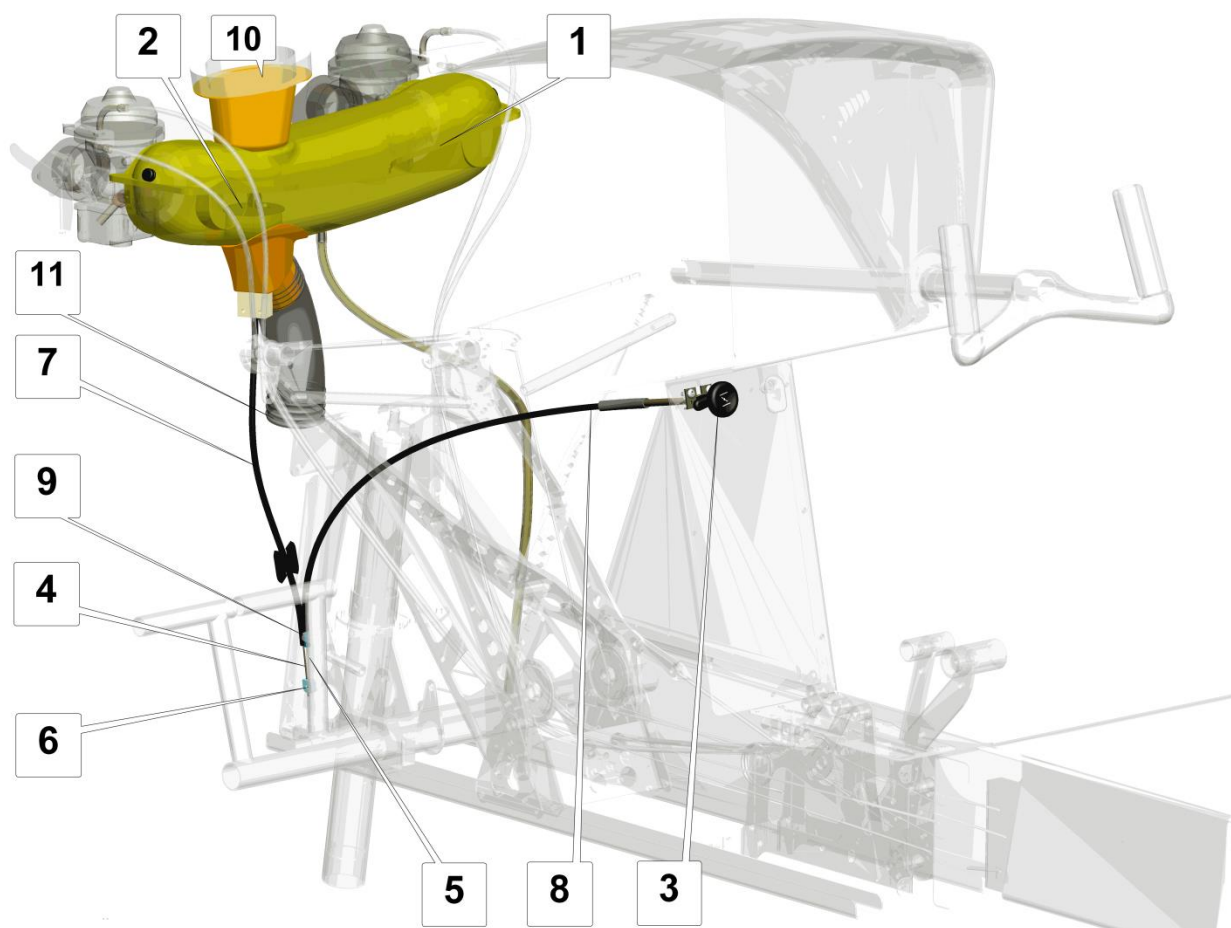

Fig. 11 Carburetor heating control
Carburetor heating control (**Fig. 11**) is achieved by means of controlling the position of the shutter (2) in the air intake box (1) covering the air filters of the carburetors. The control lever (3) is connected to the shutter with forward (4) and rear (5) push-pull cables and clip (6). The cables are enclosed in forward sheath (7, fixed to air intake box) and rear sheath (8, fixed to the instrument panel) connected to each other with a clamp (9).